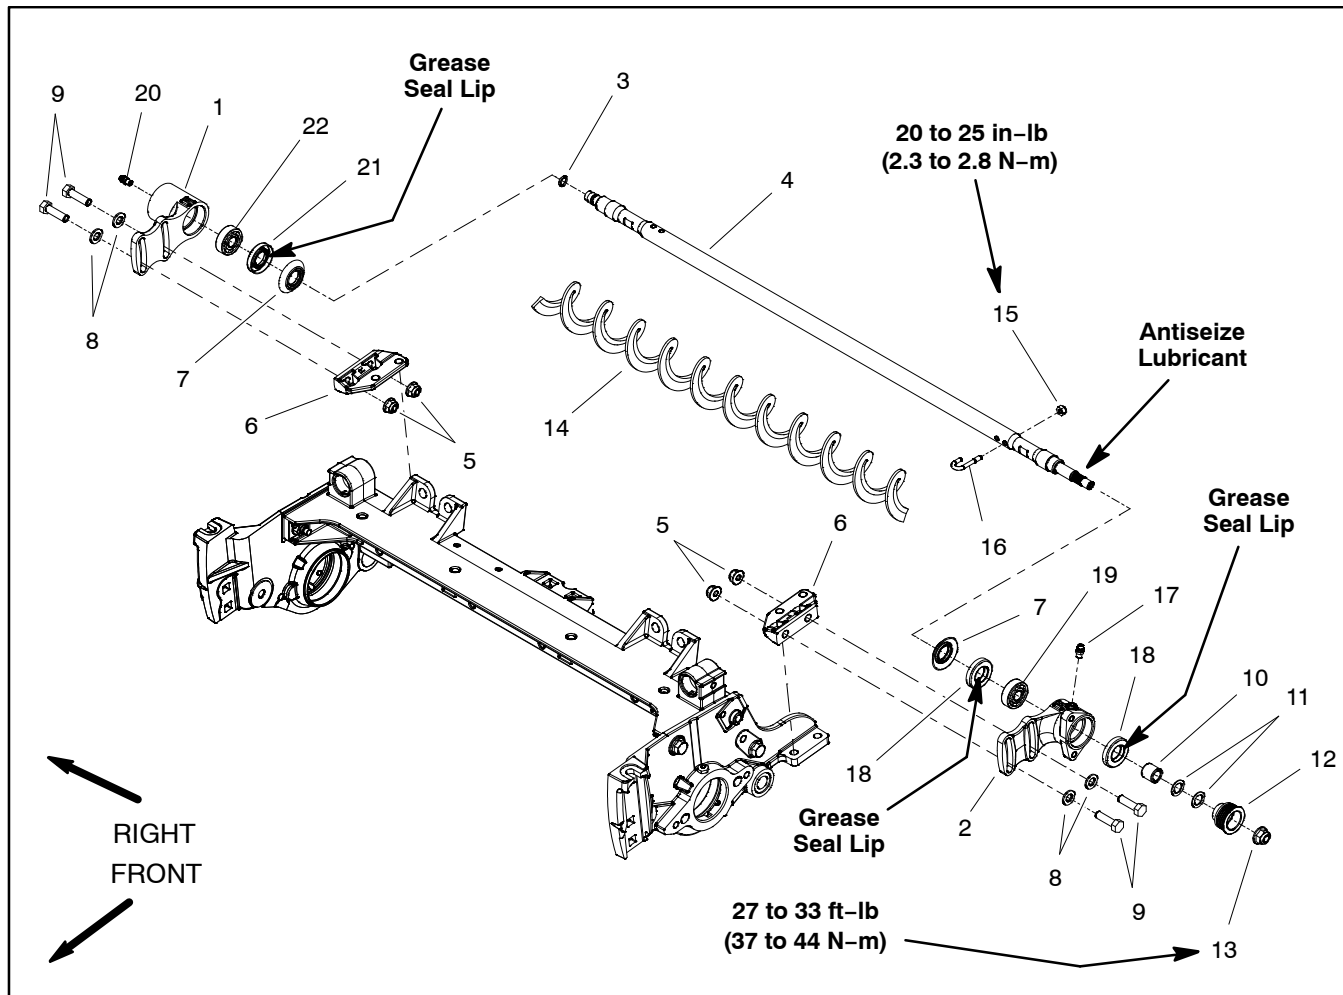
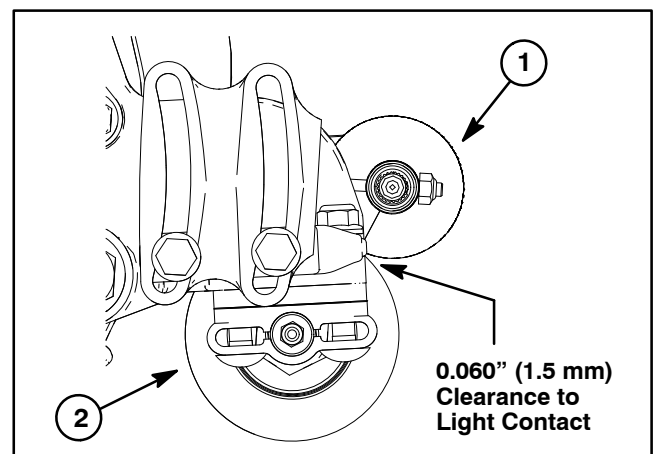

Figure 47
Figure 50
NOTE: Drive components for the rear roller brush are located on the opposite side of the cutting unit from the cutting reel motor. Figure 47 shows components used when the brush drive is on the left side of the cutting unit.
Rear Roller Brush Disassembly (Fig. 47)
A. Remove the non-drive brush bearing housing (item 1) from cutting unit.
4. Disassemble roller brush components as necessary using Figures 47 as a guide. If drive brush bearing housing (item 2) or driven pulley (item 12) need to be removed, brush cover and drive belt removal will be necessary (see Rear Roller Brush Drive System in this section).
Rear Roller Brush Assembly (Fig. 47)
3. Assemble roller brush components using Figure 47 as a guide noting the following items:
B. If driven pulley (item 12) was removed from roller brush shaft, apply antiseize lubricant to splines of pulley bore and slide pulley onto shaft. Install and tighten flange nut until pulley is seated onto shaft and then torque flange nut from **27 to 33 ft-lb (37 to 44 N-m)**. Use a ½ wrench on roller brush shaft flats to prevent shaft from rotating when tightening nut.
D. If driven pulley (item 12) was removed, check and adjust alignment of drive and driven pulleys (see Rear Roller Brush Drive System in this section).
4. Check that brush is parallel to rear roller with 0.060" (1.5 mm) clearance to light contact with rear roller (Fig. 50). If contact is incorrect, brush operation will be adversely affected.